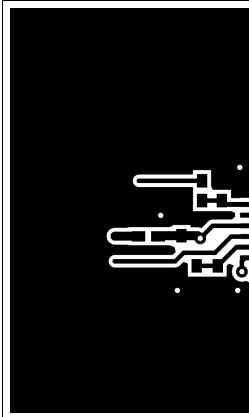
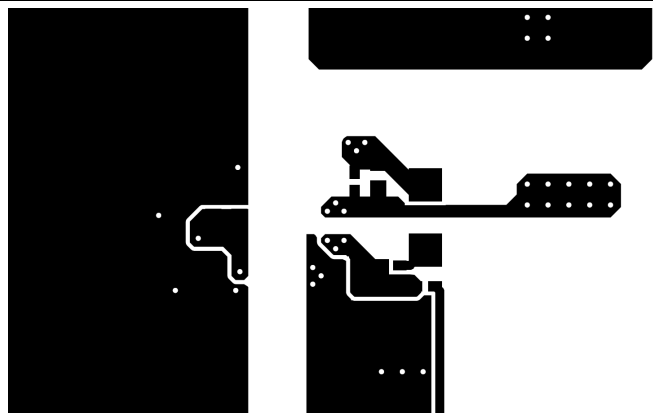

Figure 44. Top Layer Traces and Copper
Figure 45. Bottom Layer Traces and Copper
- Increasing the PCB copper connecting to VDDA, VDDDB, VSSA and VSSB pins is recommended, with priority on maximizing the connection to VSSA and VSSB (see Figure 44 and Figure 45). However, high voltage PCB considerations mentioned above must be maintained.
Figure 44 and Figure 45 shows top and bottom layer traces and copper.